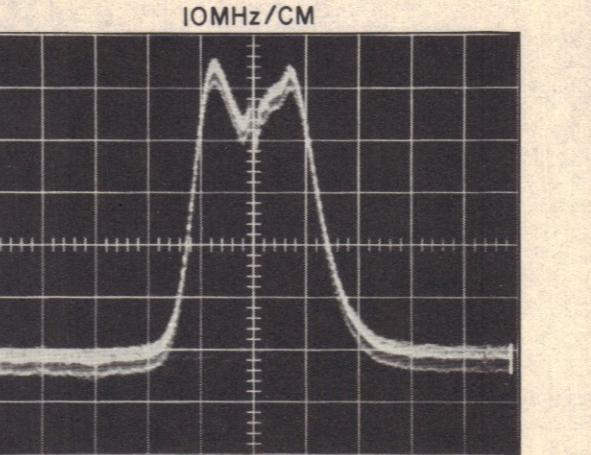

Figure 4-1d. Equipment Connections, YIG Filter and LO Tests
- (1) Determine that adequate output power is available from the VFO by performing the procedure as stated in paragraph 4.5.3.
- (2) Interconnect the test equipment as shown in Figure 4-1d, page 4-12.
- (3) Tune the TH-245B to 2000 MHz. Adjust the HP-8690A controls to sweep the 2-4.5 GHz range.
- (4) Activate the TMS-1 100 MHz markers.
- (4) Connect the equipment as shown in Figure 4-1d, page 4-12.